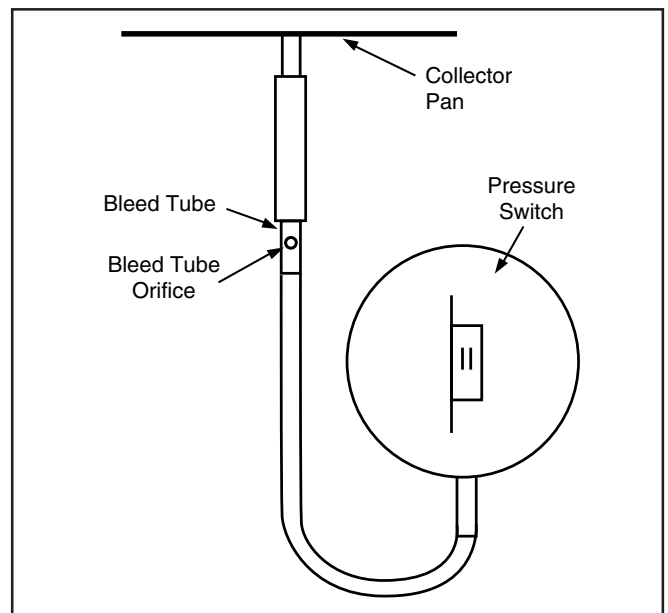

Figure 16. *RK Bleed Tube Installation
1. By-pass the vent switch, located on blower compartment door, by removing both wires from the switch. Remove wire terminals, strip wires and tie together in a wire nut. (See Figure 16.)
2. Remove the rubber tubing from the pressure switch sensor tube and the collector pan sensor tube. Cut the tubing approximately 3" from one end. Select the appropriate dilution cover plate as noted with vent kit #903196. Insert the bleed tube into the tubing. **Do not cover the hole in the bleed tube.** Place the tubing assembly back on the pressure switch sensor tube and collector pan sensor tube. (See Figure 16.)